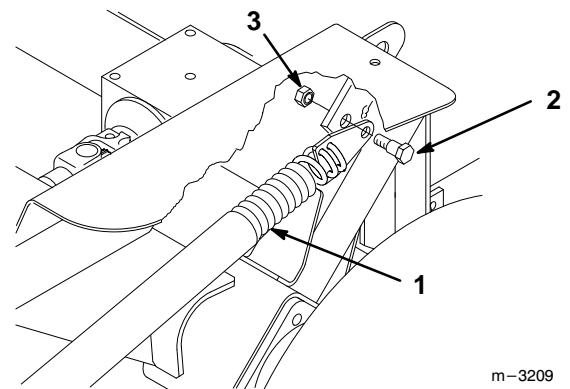

Figure 4
6. Install $3/8" \times 7/8"$ (23 mm) shoulder bolts and $3/8"$ locknuts securing spring end plate assemblies to traction unit (Fig. 4).